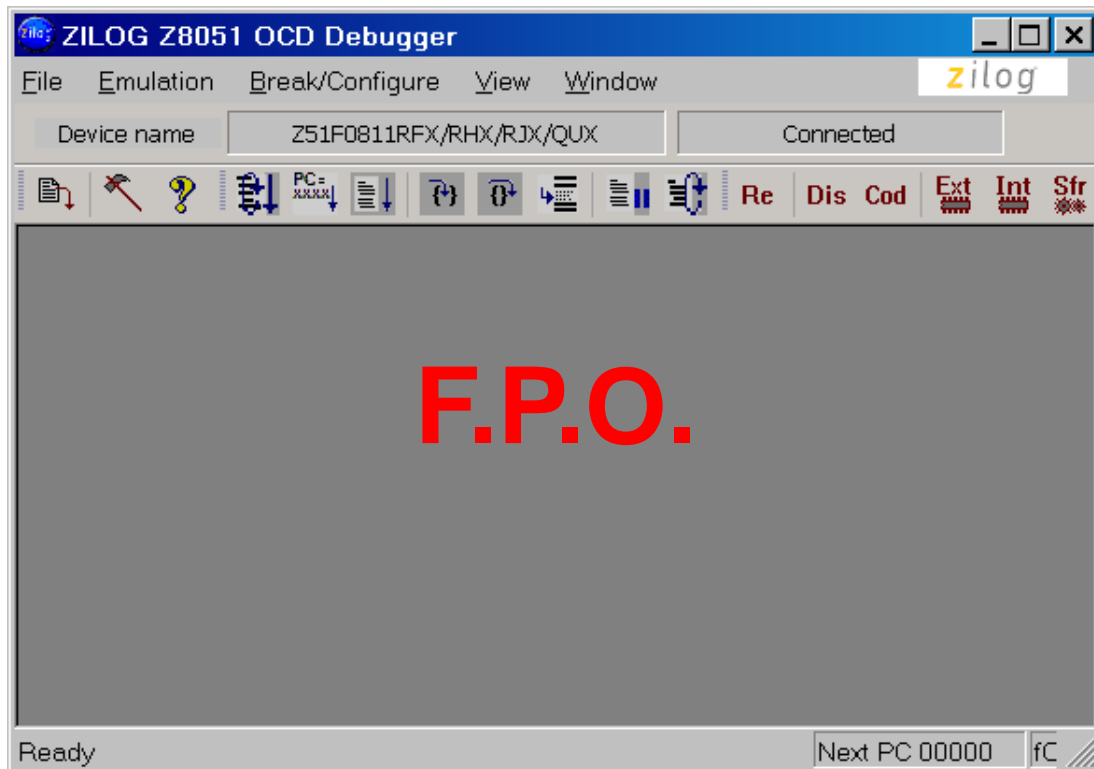

Figure 9. Initial OCD Screen
4. Run the Z8051 OCD software. From the **Start** menu, navigate to **All Programs** → **Zilog Z8051 Software and Documentation <version_number>** → **Zilog Z8051 OCD <version_number>**. Once launched, the program will display *Connected*, as shown in Figure 9.